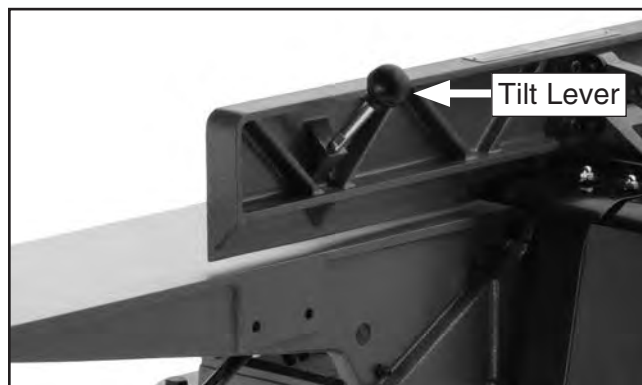

Figure 25. Fence tilt lever installed.
26. Install the fence tilt lever (see **Figure 25**).